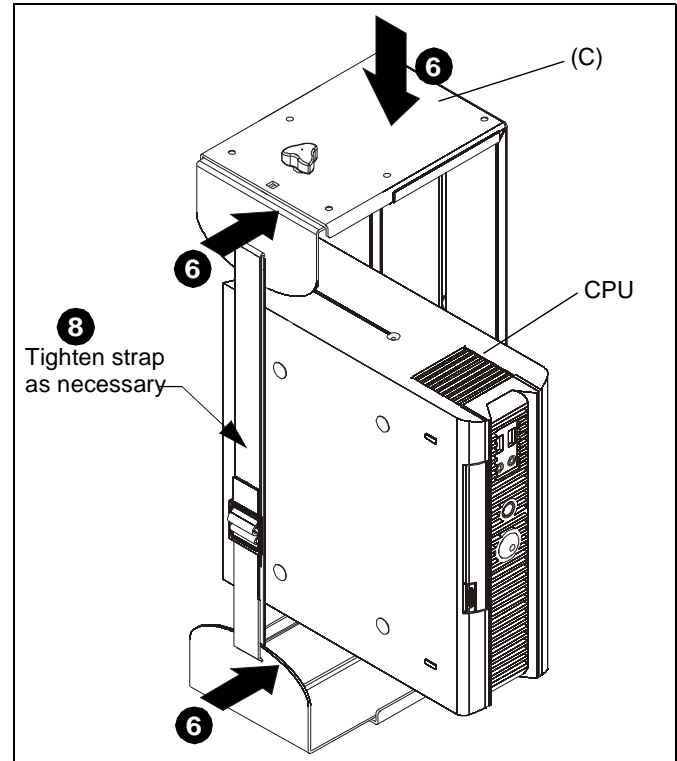

Figure 6
3. Loosen adjustment knobs on top and bottom of the CPU mount. (See Figure 6)
5. Set CPU within CPU mount (C). (See Figure 6)
6. Slide flanges to compress CPU mount (C) around CPU until CPU is tightly secured within mount. (See Figure 6)